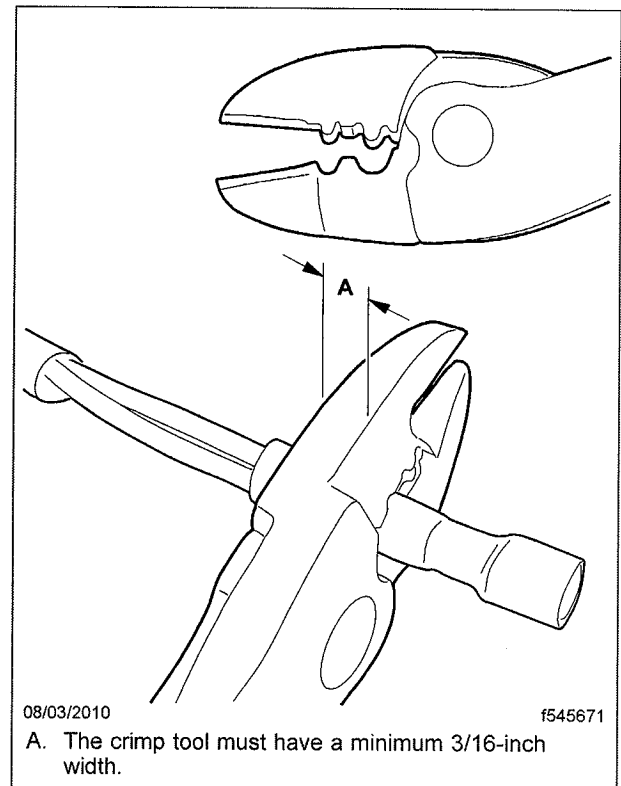

Fig. 7, Crimp Tool
- 10.3 Crimp each end of the butt using a crimp tool to secure the wires. See **Fig. 7**.